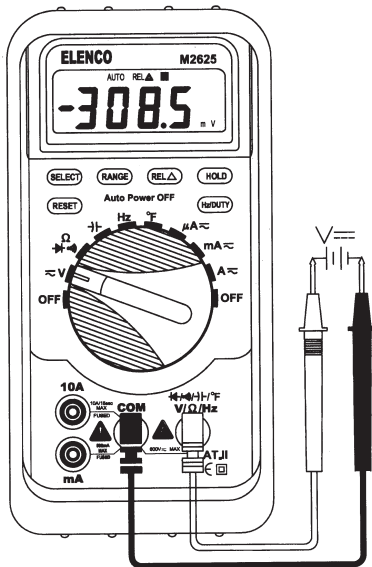

Figure 6. DC Voltage Measurement
1. Turn on the meter, then set up the meter to measure DC volts as shown in Figure 6.